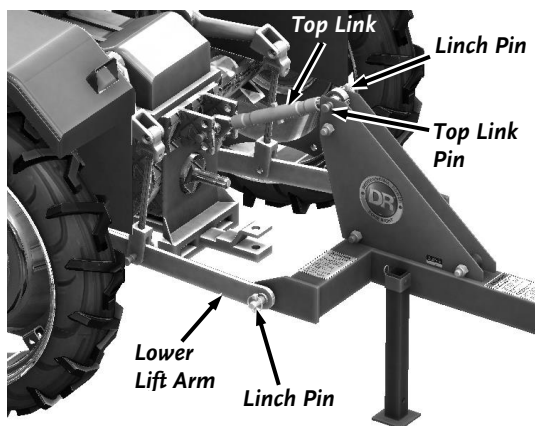

Figure 11
1. Position the rear of the Tractor centered at the Landscape Rake Frame (**Figure 11**).